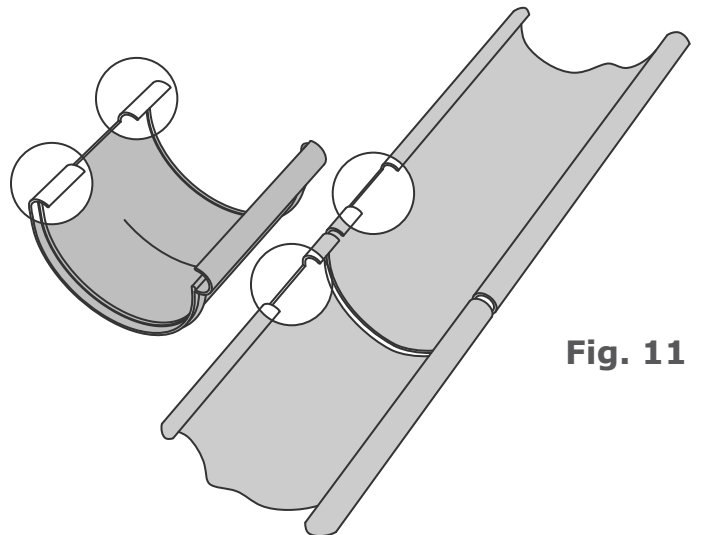

Fig. 11
7. Vynadeep® gutter sections need to be notched on the ends along the rear facing bead prior to connection. 'Notch jointing' allows the gutter to expand and contract due to temperature change without gutter and fitting pulling apart. Fig 11.